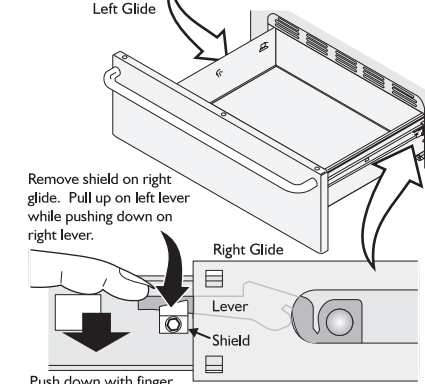

Fig.1
- On the right glide you will find a shield attached with a hex-head screw (See Fig. 1). Using a 1/4" socket and ratchet remove the shield.